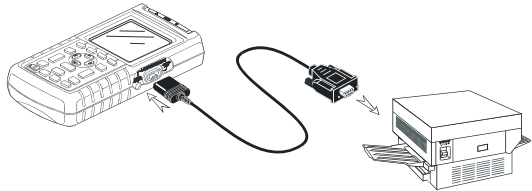

Figure 7-1. Connecting a Serial Printer
- The Optically Isolated RS-232 Adapter/Cable (PM9080, optional) to connect a serial printer to the OPTICAL PORT of the test tool. See Figure 7-1.